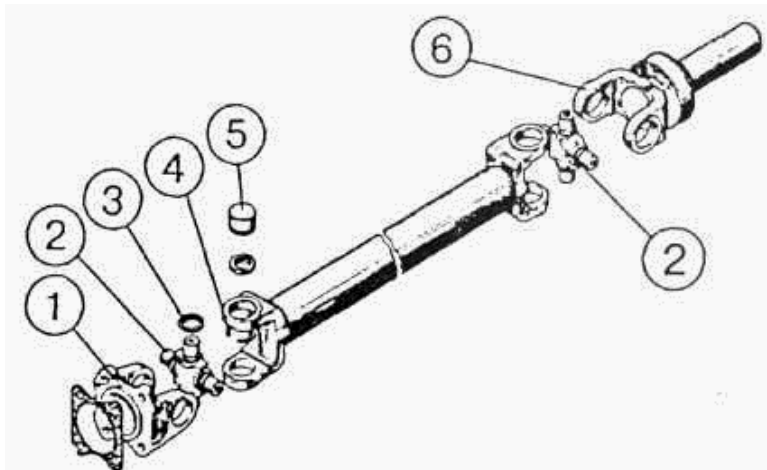

Figure 5.12
e) disassembly cardan shaft (Figure 5.12), to do this: